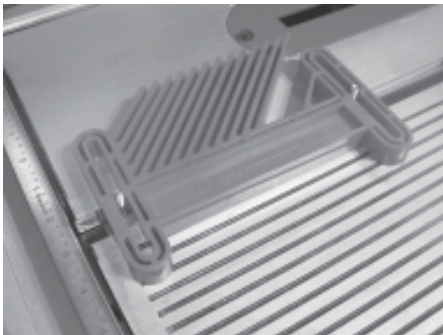

Figure 2
3. Set the Featherboard over the two pins. Be sure that the fingers of the Featherboard are pointing in the same direction as you will feed the wood past the cutter. Refer to the feed direction arrows on the Featherboard, see Figure 2.